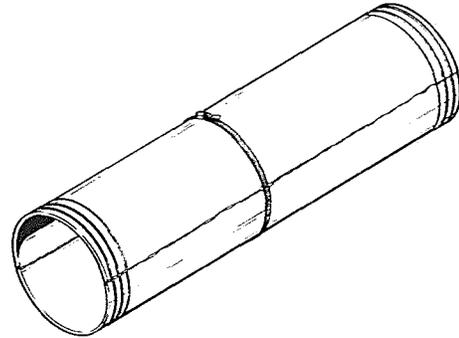

Figure 27. Fasten Center Hose Clamp
7.11 Fasten a hose clamp around center of sleeve. (Figure 27)